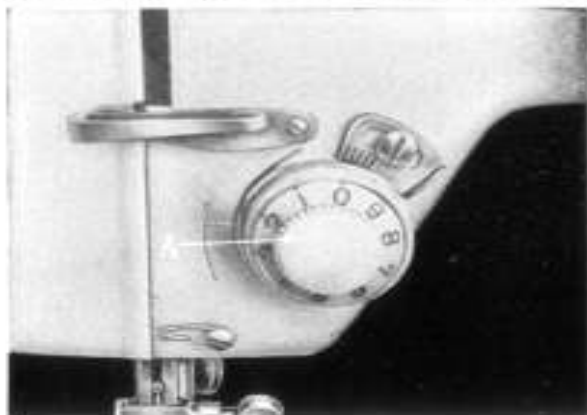

Fig. 11
It is very simple to regulate the tension on this Pacesetter. Merely turn the Thumb Nut (A) Fig. 11 to the right to tighten the upper tension. Amount of tension is indicated by a plus sign before the advancing numbers 0-9. To loosen the tension, you turn the Thumb Nut (A) to the left. Loosening tension is indicated by a minus sign before the decreasing numbers from 9 to 0.
and set the plus and minus signs, as shown in Fig. 11. Do not turn the Dial rapidly; a quarter of a turn is all the tension you need.